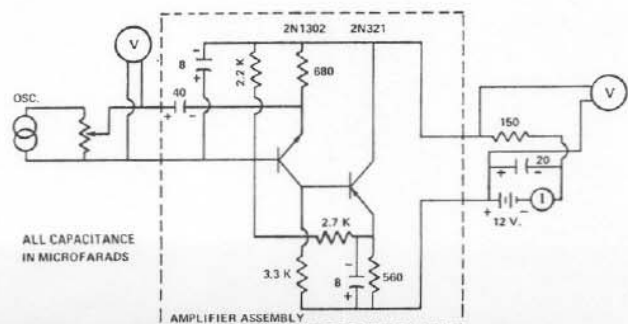

Figure 3 - Test Setup
7. **Test Procedure:** ( See Figure 3 )
9. **Check of Microphone Output:** The best procedure for testing the microphone is to compare its output with one known to be operating properly, using the test set-up as shown in Figure 3.